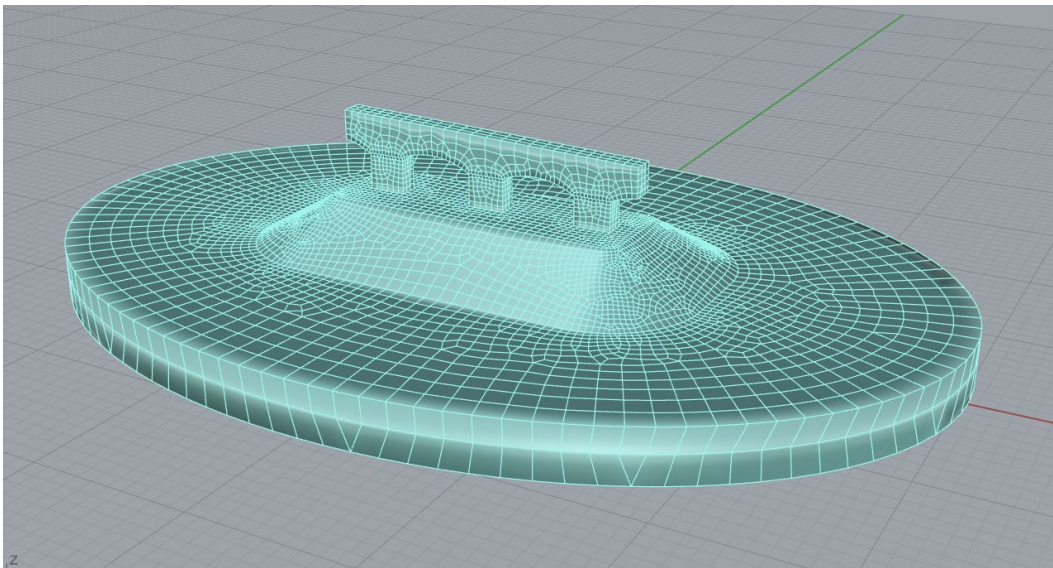

Figure 27: Remeshed surface mesh in the second approach.
19. Select the merged surface mesh (as in Figure 27) and type the **_GExtract** command or click on the  icon in the *Griddle* toolbar. Select option *Multiple* and use *MaxBreakAngle* = 180 to separate meshes only along non-manifold edges (the break angle will not have an effect as it is set to the highest possible value of 180°). Alternatively, if break angle = 89° is used, all meshes that connect at an angle > 89° will also be separated (thus, meshes that are perpendicular to each other will be separated).